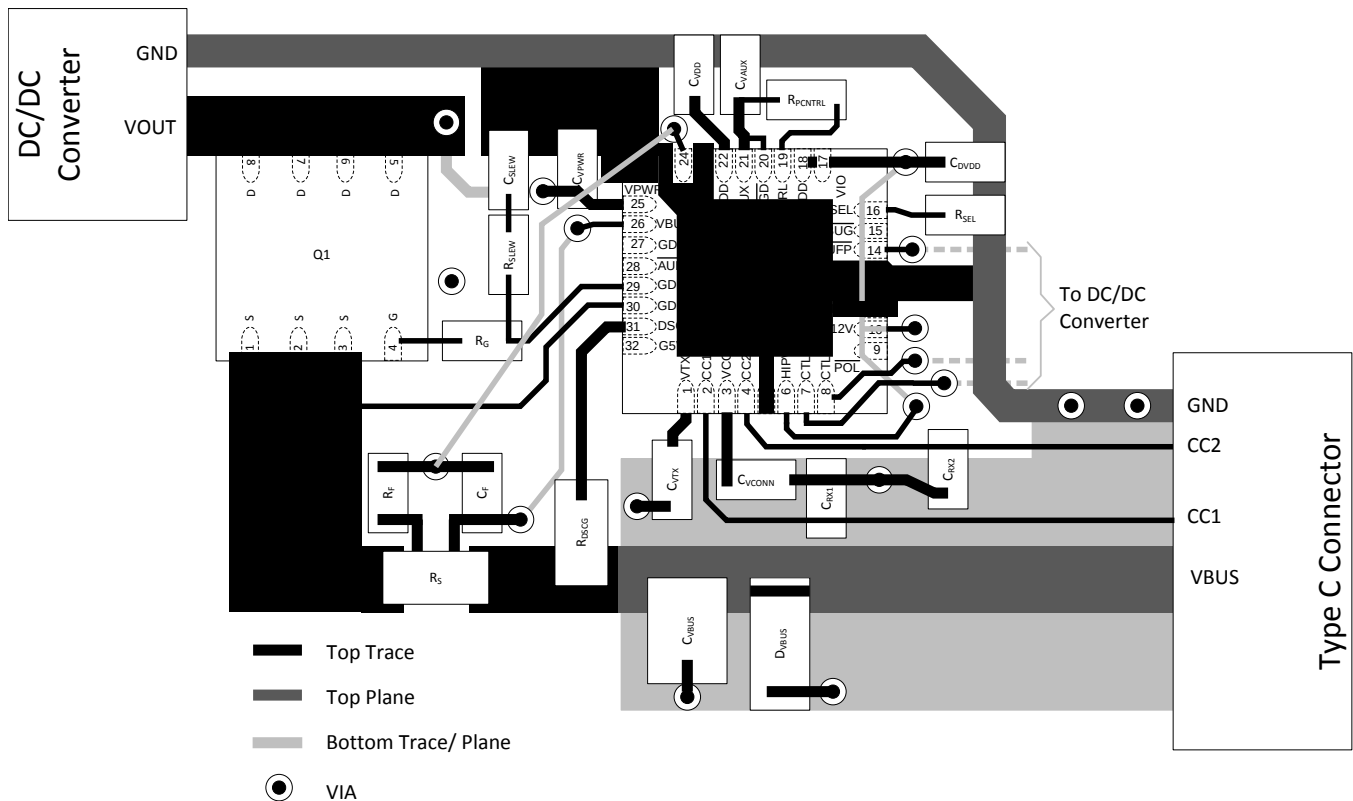

Figure 74. Layout Example
- R_G : Place R_G near Q_1 as shown in Figure 74. Minimize stray leakage paths as the GDNG sourcing current could be affected.
- R_{SLEW}/C_{SLEW} : Place R_{SLEW} and C_{SLEW} near R_G as shown in Figure 74.
- R_F/C_F : When required, place R_F and C_F as shown in Figure 74 to facilitate the Kelvin sense connection back to the device.
The basic component placement and layout is provided in Figure 74. This layout represents the circuit shown in Figure 41. The layout for other power configurations will vary slightly from that shown below.